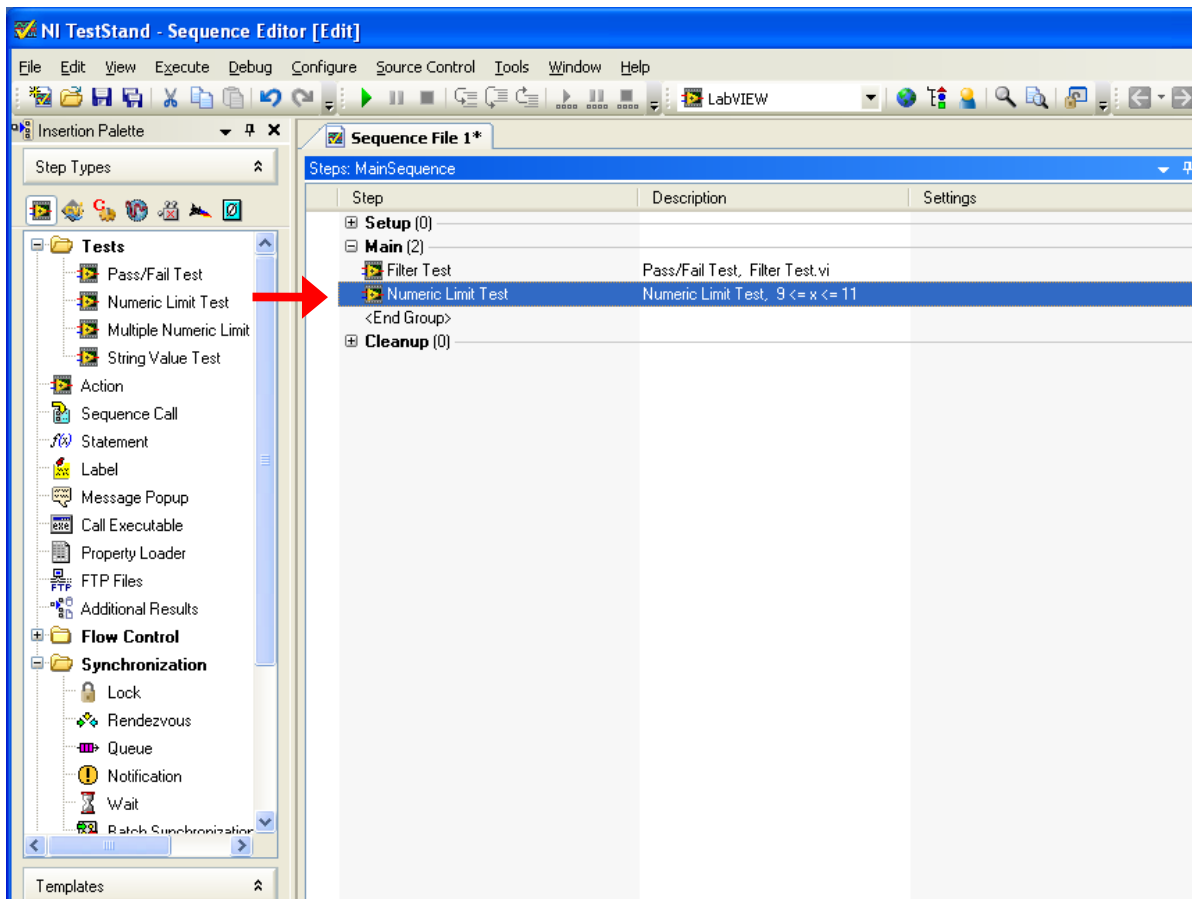

Figure 8. Addition of LED Test step
- a. Drag the Numeric Limit test from the **Insertion Palette** to the **MainSequence** as shown in Figure 8.